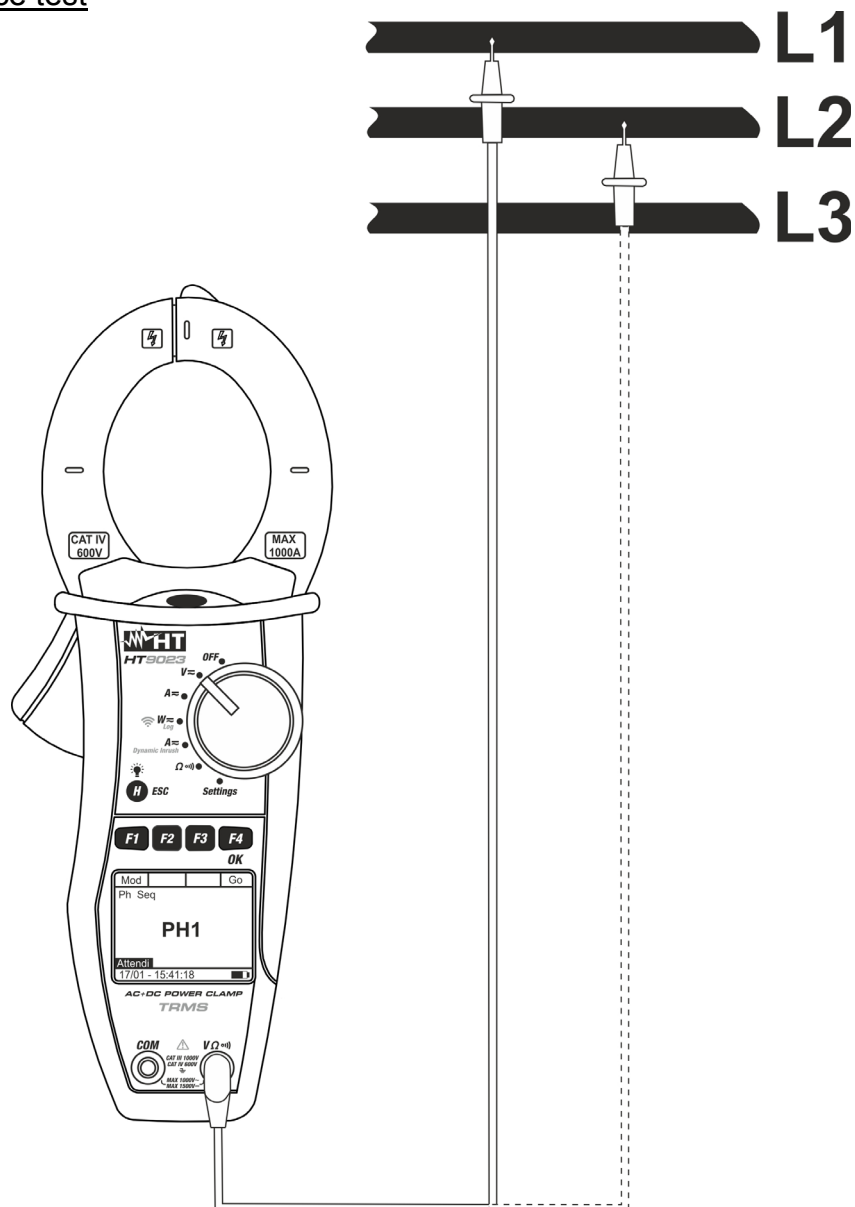

Fig. 7: Verification of phase sequence
4. Connect red cable to input lead **VΩ** and black cable to input lead **COM** then position the leads respectively to the L1 phase and the ground reference PE of the circuit under test (see Fig. 7).
7. The message “**PH2**” is shown and the instrument waits for the detection of L2 phase. Connect the test lead to phase L2 cable (see Fig. 7)